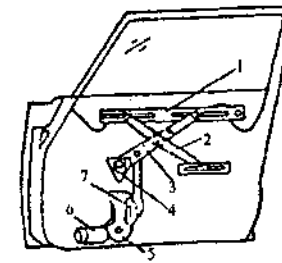

Figure 6.4-11 Power window regulator
1. For power window regulator and its motor transmission component structure, see Figure 6.4-11 and 6.4-12.